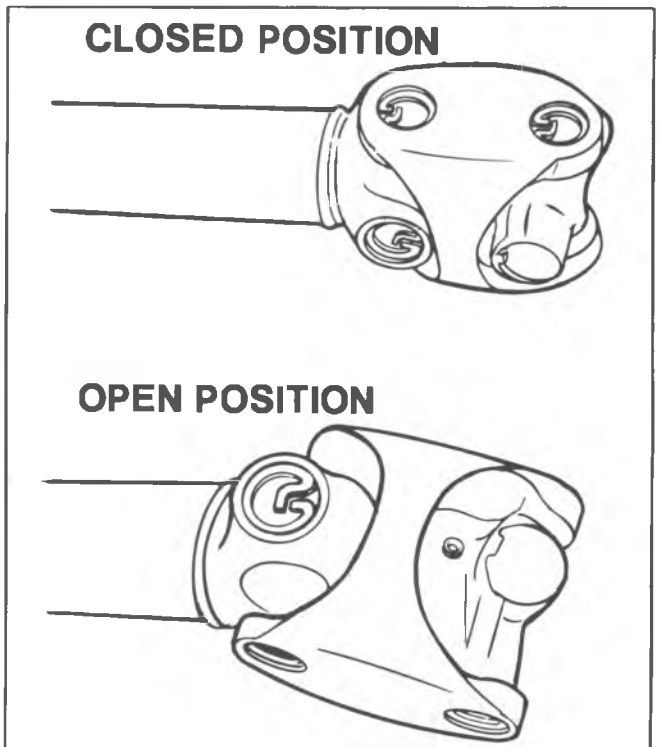

Fig. 2--Closed and Open Positions
Access to the joint is limited and can best be accomplished by the following procedure. Figure 2 shows how the joint conceals the lube fitting (A) when it is in the downward position; and how it opens (B) when the fitting is in the upward position. Access to the lube fitting can only be gained from **above** the opened joint. This requires a flex-hose that can bend between the propshaft and the underbody.